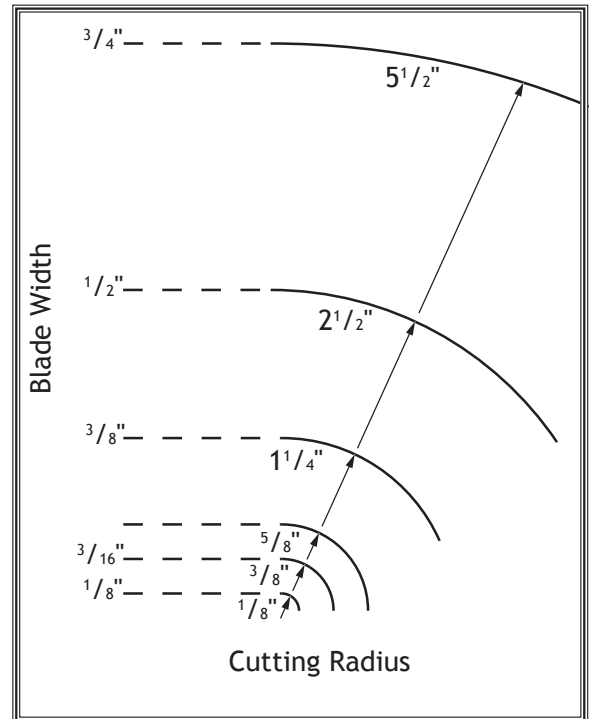

Figure 67. Recommended cutting radius per blade width.
- **Curve Cutting:** Use the chart in **Figure 67** to determine the correct blade for curve cutting. Determine the smallest radius curve that will be cut on your workpiece and use the corresponding blade width (refer to **Cutting Curves** on **Page 54** for more information).